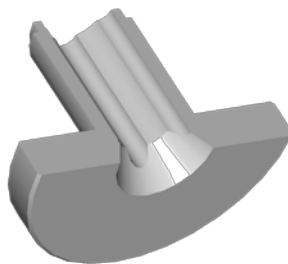
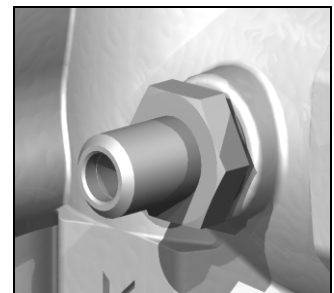

Figure 4 – Relief seat
Figure 5 – Metering point
- **relief valve** – relieves excess pressure by shifting the relief seat when the outlet pressure increases over the initially set value (Figure 4);
- **shut-off valve (SB)** – blocks the gas access into the regulator when the outlet pressure increases or decreases in an uncontrolled manner;
- **metering point** – provided for measuring the outlet pressure (Figure 5).
The control (set) pressure can be measured by means of the metering point on the exterior of the body (Figure 5) which is delivered optionally.